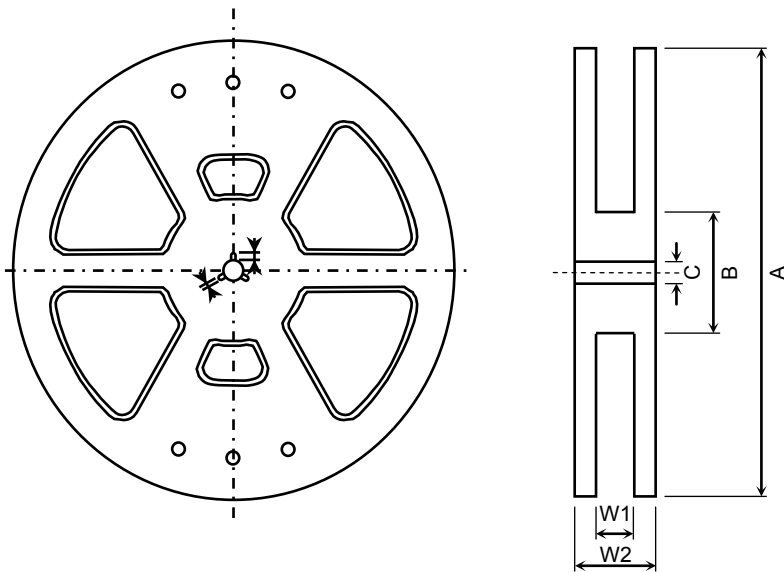

Figure 3 Reel Forms
- (1) Material: Plastic
- (2) Dimensions: The reel dimensions are as shown in Figure 3 and Table 3.